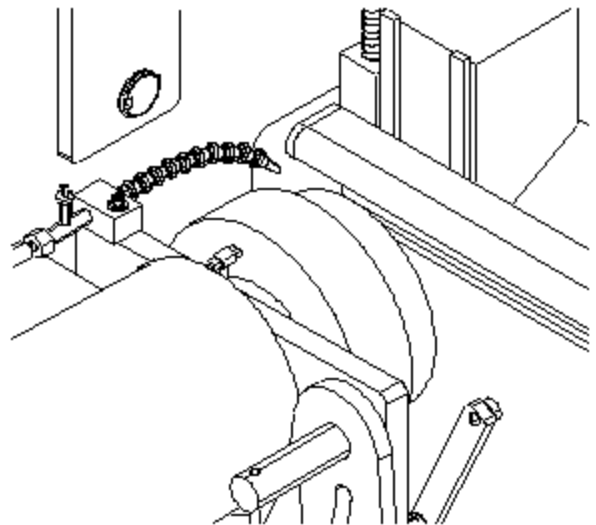

FIG. 37
NOTE: The area of the grinding wheel which contacts the bedknife is on the left side of the wheel. When grinding the left end of the bedknife, the area of the wheel which doesn't contact the bedknife will still be over the bedknife. See FIG. 37. When you go to the right end of the Grinder, the wheel traverses completely off the bedknife.
2. Set the COOLANT PUMP switch at ON, and check that the nozzle is directing coolant onto the bedknife. See FIG. 37.